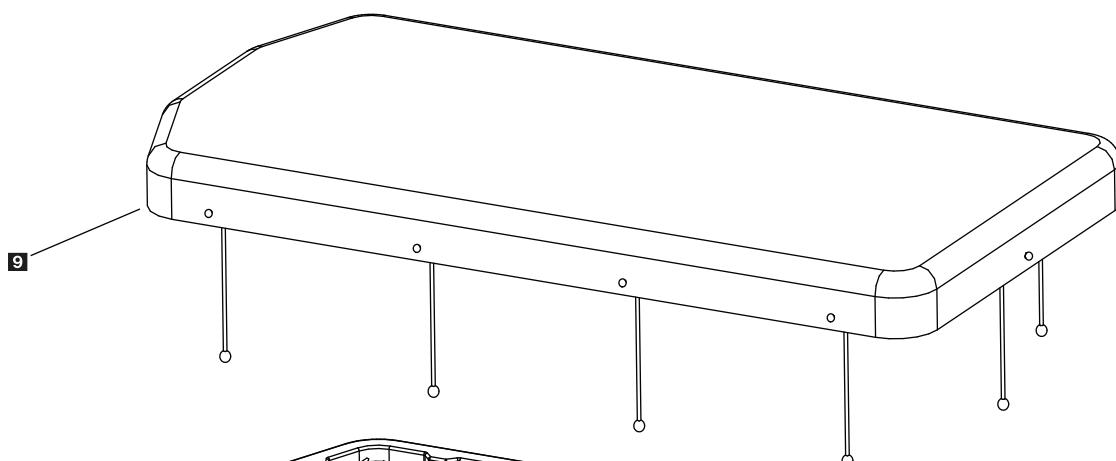

Figure 1
Step 1: Secure long leveling rod D-5741 to spinner enclosure through bottom hole in bracket with hair pin clip through hole in pin (see fig 1)